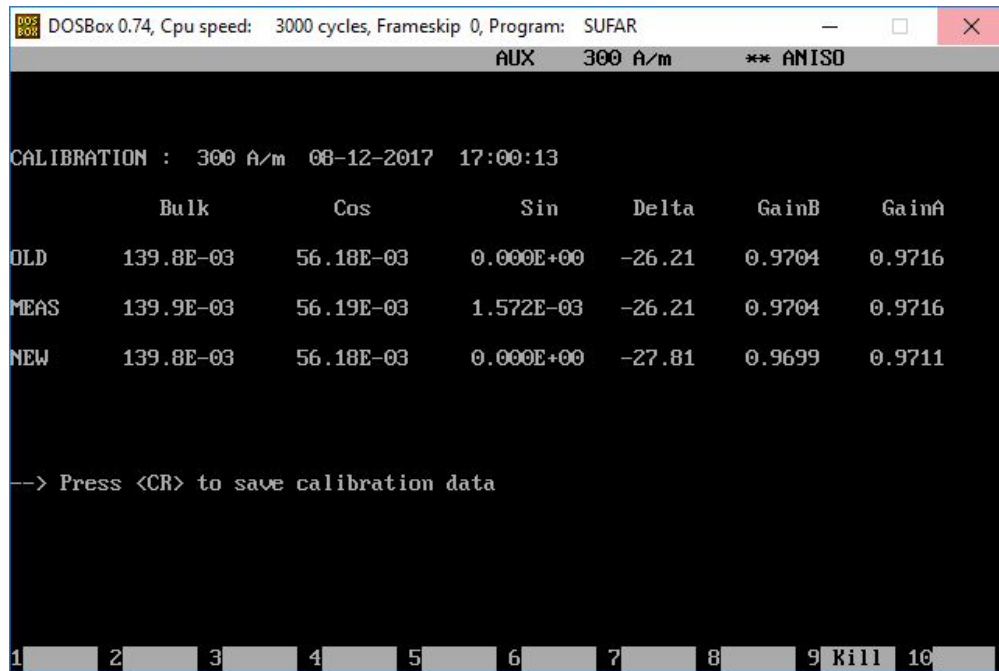

Figure 6 Calibration window when measurement is complete
- a. The sample holder will move down into the coils and calibration measurement will be completed. The Old and New calibration information will be displayed (**Figure 6**).